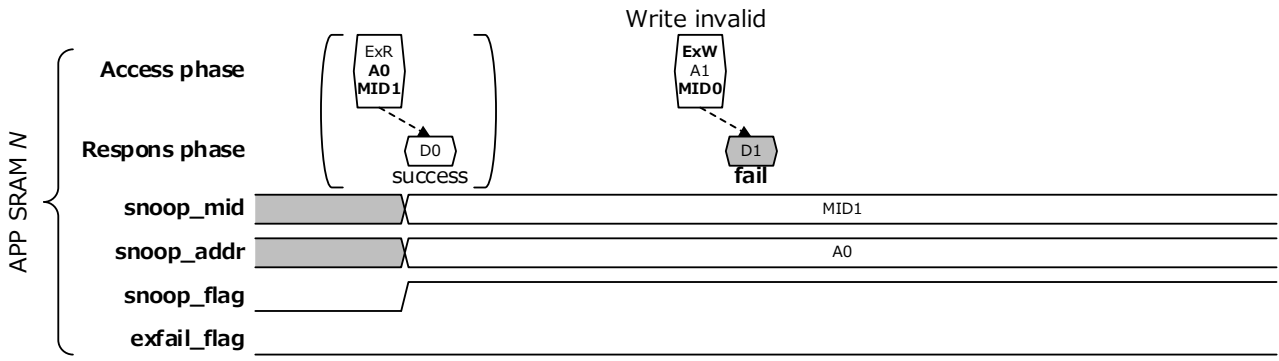

Figure APP-115 Failure Case 3 of Exclusive Access
- In the case that an exclusive write access (ExW) occurs to an address that is not a target to snoop, “failure” will be returned at the timing of an exclusive write access from the master with the exclusive access right. (refer to Figure APP-115)